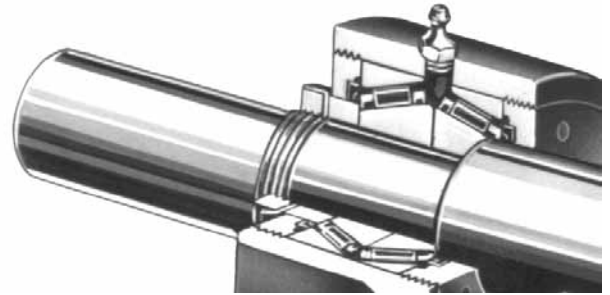

FIGURE 17
**CAUTION:** It is possible to install bearings incorrectly. For proper assembly, refer to Figure 17.